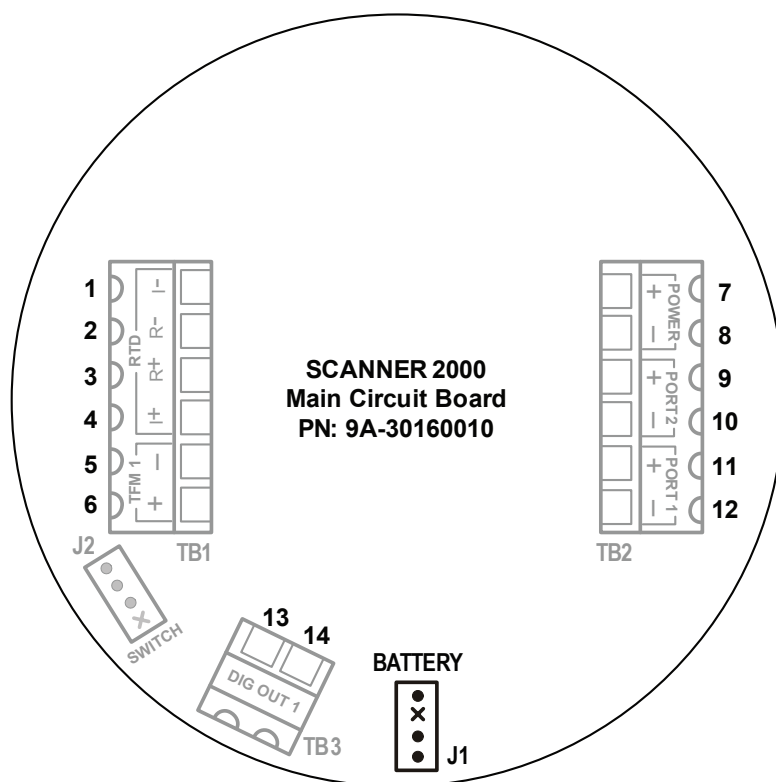

Figure 3.2—Lithium battery pack connection
4. Connect the lithium battery to the J1 connector on the circuit assembly. See Figure 3.2, page 61.
The Scanner 2000 microEFM is shipped with a lithium battery pack. To supply power to the instrument, connect the battery cable to connector J1 on the main circuit assembly (Figure 3.2).